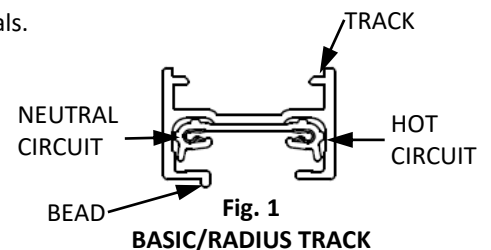

Fig. 1
A. BASIC/RADIUS TRACK Fig. 1
A. RAIL BASIC/RADIUS Fig. 1